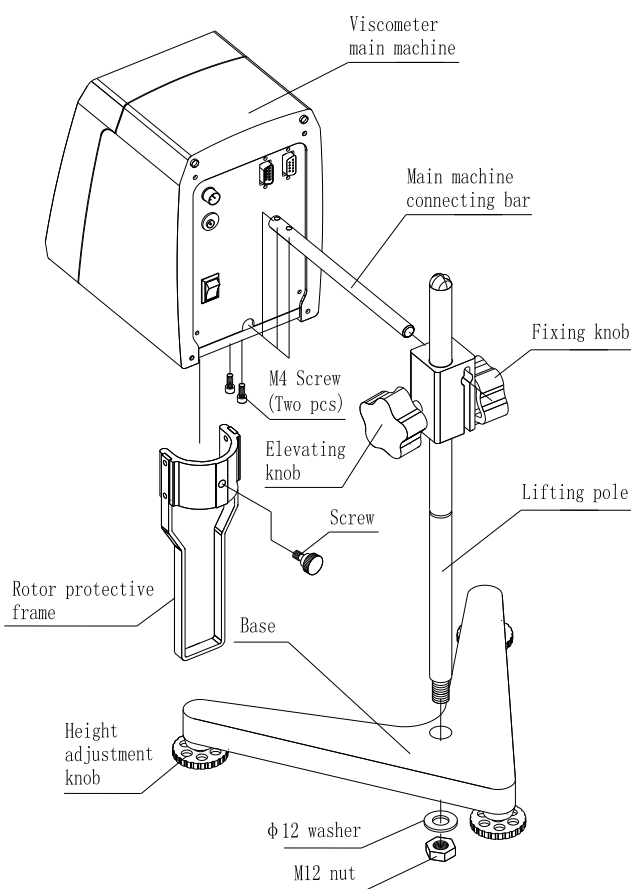

Fig. 1
(1)Take out the base, lifting pole, viscometer main machine, main machine connecting bar, and power supply adapter, etc. As shown in Fig. 1, insert the lifting pole into the base hole and tighten by the nut (**notice: the lifting knob is at the right**), remove the screw from the main machine connecting bar, insert it into the installing hole at the back and bottom of the main machine with the milling flat down, and then tightly fix the main machine connecting bar to the base with the removed hexagonal screw. Finally, insert the main machine with the well fixed connecting bar into the installing hole of the elevating slider, and tighten the fixing knob at the calibrated position.
(4) Remove the protective cap under the instrument.